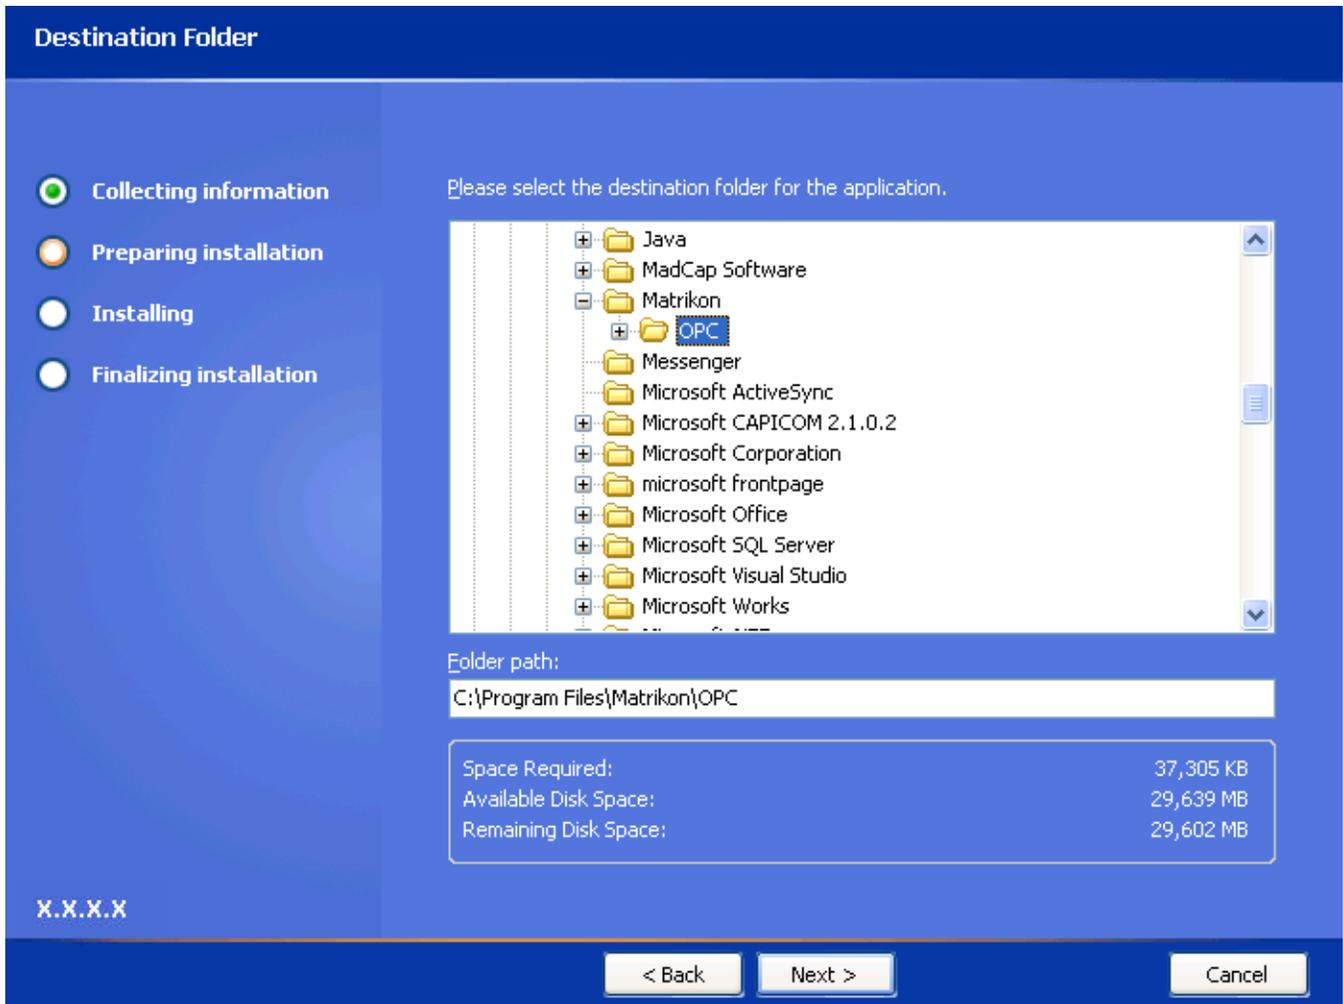

Figure 25 - Destination Folder Screen
9. Click on the **Next** button. The **Destination Folder** screen (Figure 25) appears.